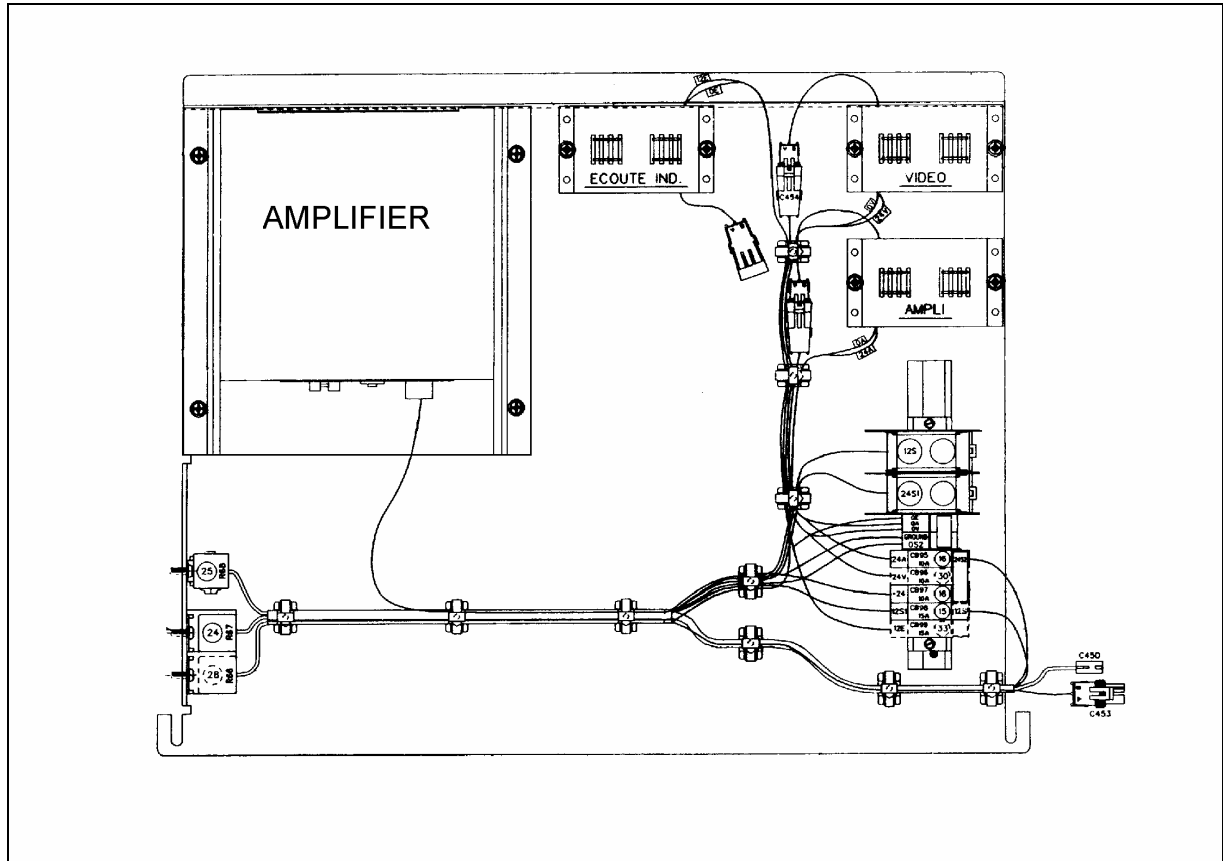

FIGURE 1: SOUND SYSTEM JUNCTION PLATE
| FIGURE 1: SOUND SYSTEM JUNCTION PLATE | 23-5 |
The power amplifier is mounted on a sound system junction plate which is located over the front wheel housing (Fig. 1), to access, open the first baggage compartment. In addition to the public address (PA) systems, options for AM/FM stereo radio and cassette player, CD changer, karaoke, wireless microphone, video system with monitors, scenic viewer and digital processor controller may be featured.